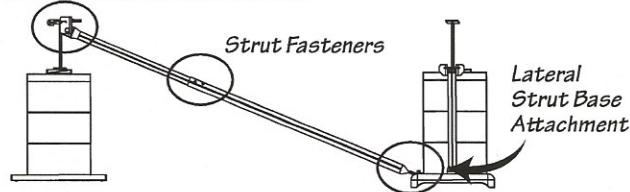

Fig. 6-2
- Secure the extended lateral strut by mounting 4 self tapping screws in the 4 holes in the outer lateral tube as shown in Fig. 6-2. Attach two screws per side.